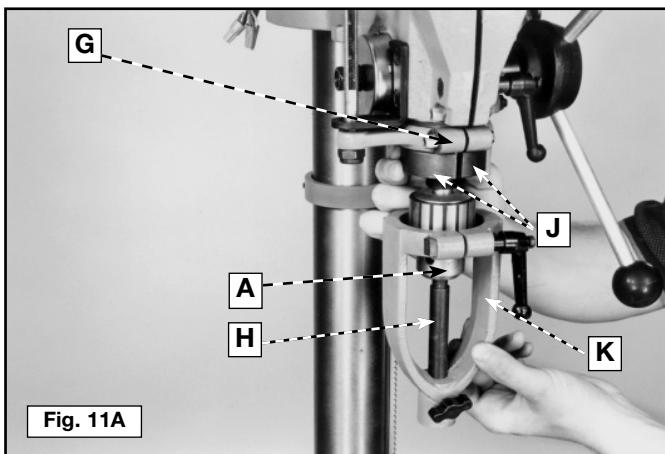
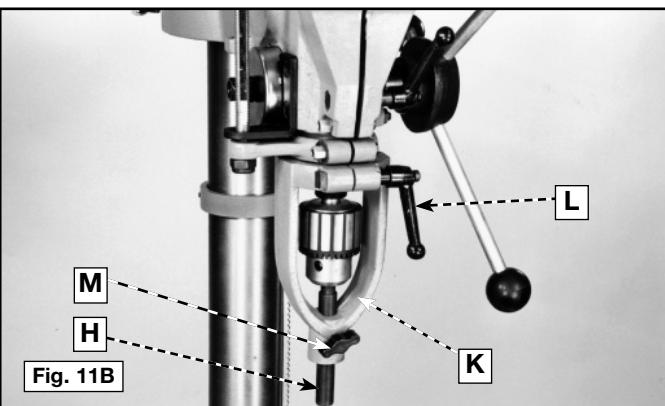

Fig. 11A
Fig. 11B
2. Assemble the **largest inside diameter split-ring bushings** (J) Fig. 11A, around the quill and under stop collar (G). **IMPORTANT. FOR MODEL NO. 17-965 DRILL PRESS, USE THE INTERMEDIATE SIZED SPLIT-RING BUSHINGS. THE BUSHINGS ARE TO BE POSITIONED AROUND THE SMALLER DIAMETER OF THE QUILL.**
3. While holding the split-ring bushings (J) Fig. 11A, in position on the quill, slide chisel holder (K) over alignment pin (H) and over split-ring bushings (J). **IMPORTANT.** Before tightening locking lever (L) Fig. 11B, make certain the slot in split-ring bushings (J) Fig. 11A, lines up with slot in chisel holder (K) Fig. 11B. Tighten thumb screw (M) onto alignment pin (H). Tighten locking lever (L) around split-ring bushings. **NOTE:** Locking lever (L) is spring-loaded and can be repositioned by pulling out lever and repositioning the hub of lever on the nut located directly under the hub.
4. After chisel holder (K) Fig. 11B, is assembled to the machine, loosen thumb screw (M), and remove alignment pin (H) from spindle. Proceed with "**ASSEMBLING FENCE TO TABLE.**"